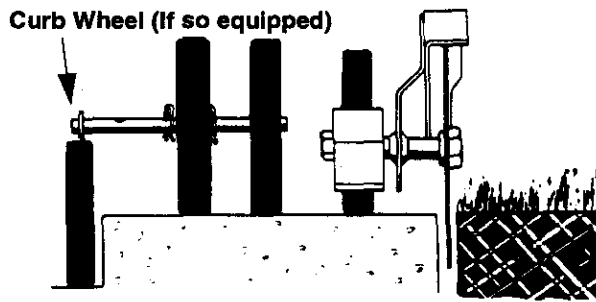
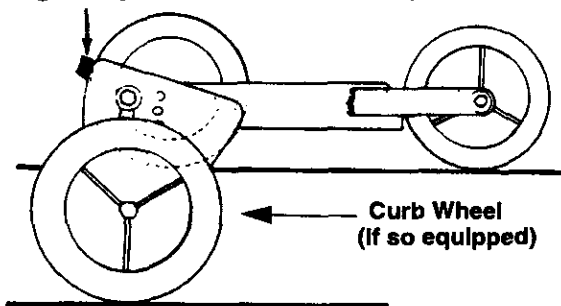

Figure 9
Figure 10
- To edge along a curb, remove the hairpin clip from the right side of the front axle, slide the right wheel toward the left side of the unit and replace the hairpin clip. See Figure 9. Lower the right rear wheel (on units equipped with adjustable curb wheel) by moving the height adjustment lever toward the engine, pivoting the wheel to the desired depth and releasing the lever. See Figure 10.